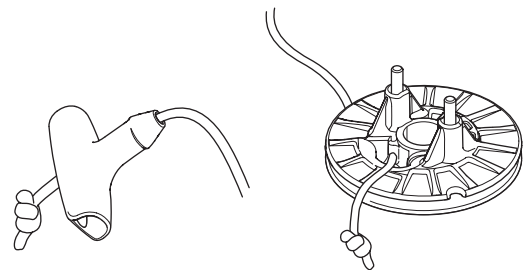

Fig. 5
3. If a new cord is to be fitted, push the free end in the hole in the starter pulley. Take hold of the end with pointed pliers inside the pulley and pull up the cord. See fig. 5.
6. Pull out the cord through its hole in the housing and fit the handle and secure it with a double knot. See fig. 5.
9. Fit the cable guide and press on the ignition cable. Connect the short-circuit cable to the switch. See fig. 5.